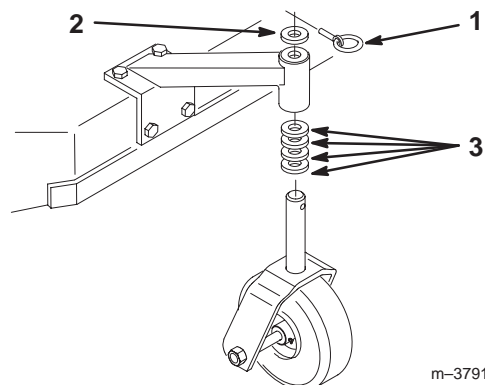

Figure 20
- Using the Height-of-Cut Chart (on page 23), adjust the caster spacers to match with the axle hole selected (Fig. 20).
- Remove the clevis pin, slide the caster from the support, and change the spacers (Fig. 20).
- Install the caster in the support and insert the clevis pin (Fig. 20).